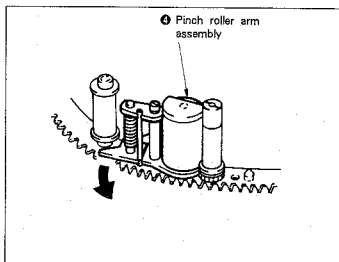

Fig. 7-16.
-) Rotate pinch roller arm assembly ④ in the direction of arrow. (See Fig. 7-16.)